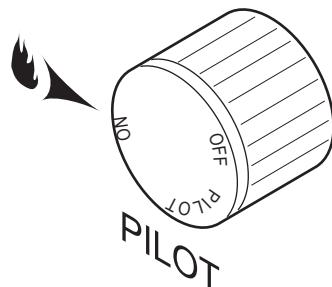

Figure 28 - On Position
Depress and turn the knob counterclockwise ↙ to the “ON” position. *Figure 28* It will take less than four (4) seconds for the burner to ignite.